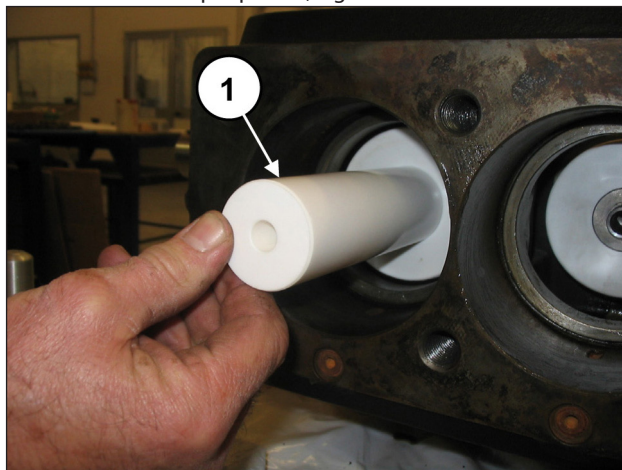
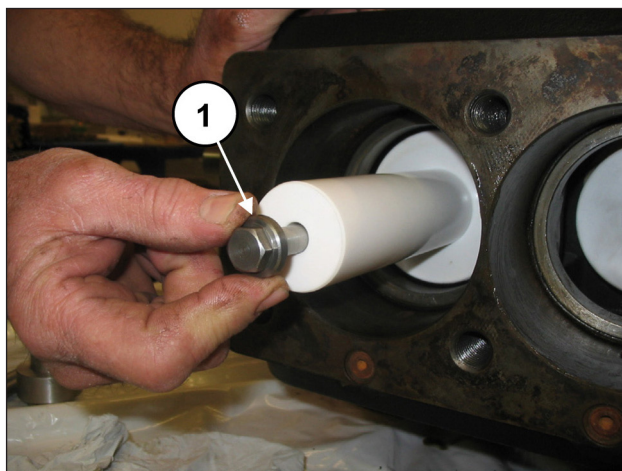

Fig. 137
Fig. 138
Install the pistons on their respective guides (pos. ①, Fig. 137) and fasten them as per pos. ①, Fig. 138.